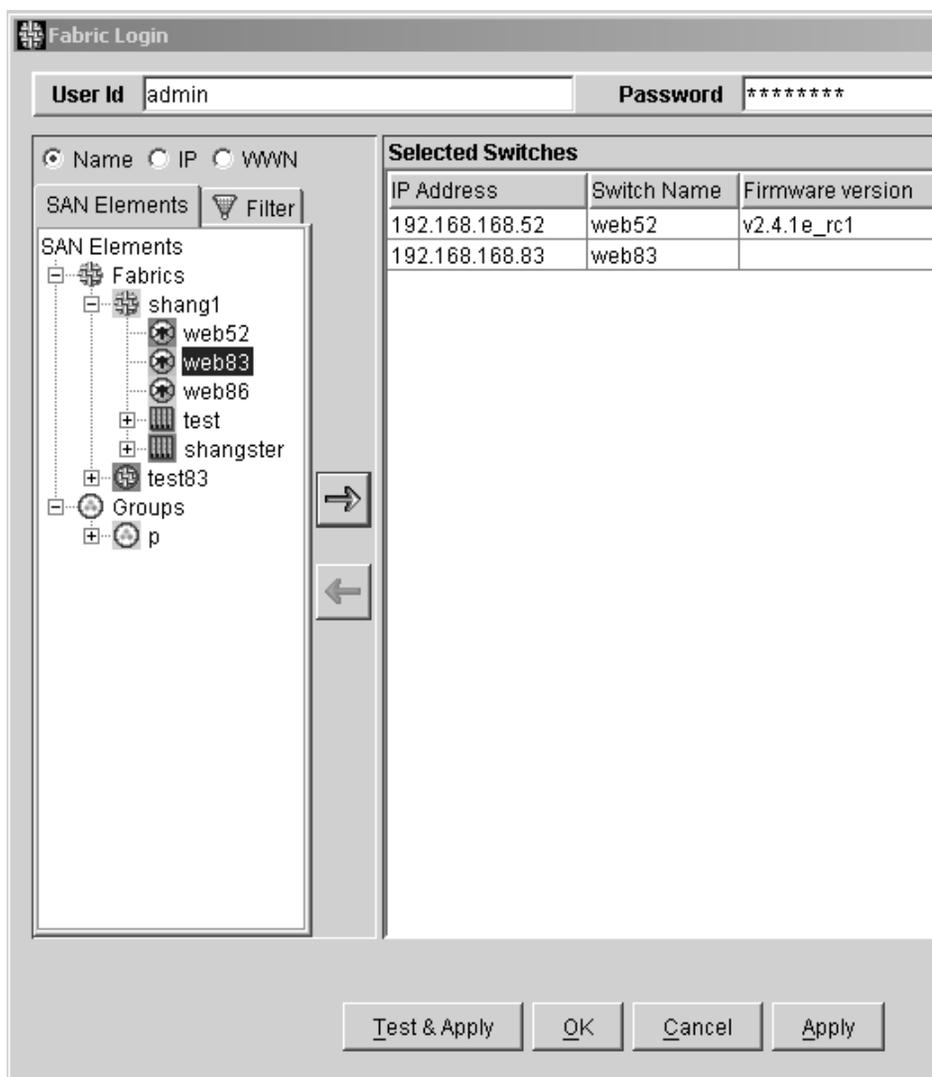

Figure 8: Fabric Login dialog box
1. Choose **File > Fabric Login**. The **Fabric Login** dialog box displays, as shown in Figure 8.